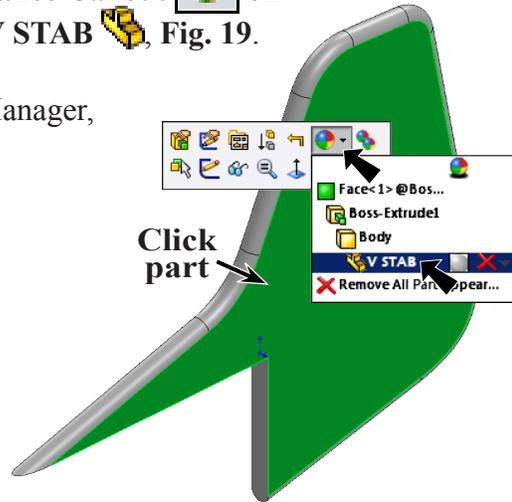

Fig. 19
- Step 2. Click the part, expand **Appearance Callout**  on the Context toolbar and click **V STAB** , Fig. 19.